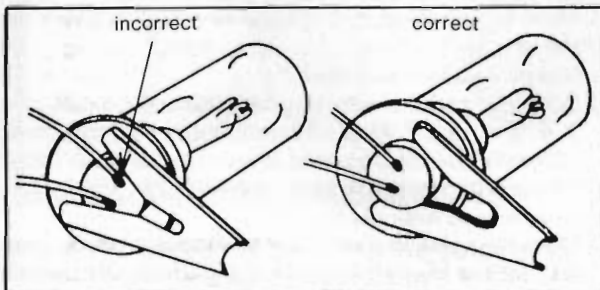

Fig. 12-6 Fastening the Picture Lamp
- Fit the clamp and slightly tighten the fastening screw. Make sure that the clamp does not rest on the lamp socket. Align both thighs of the clamp symmetrically to the lamp socket (Fig. 12-6).